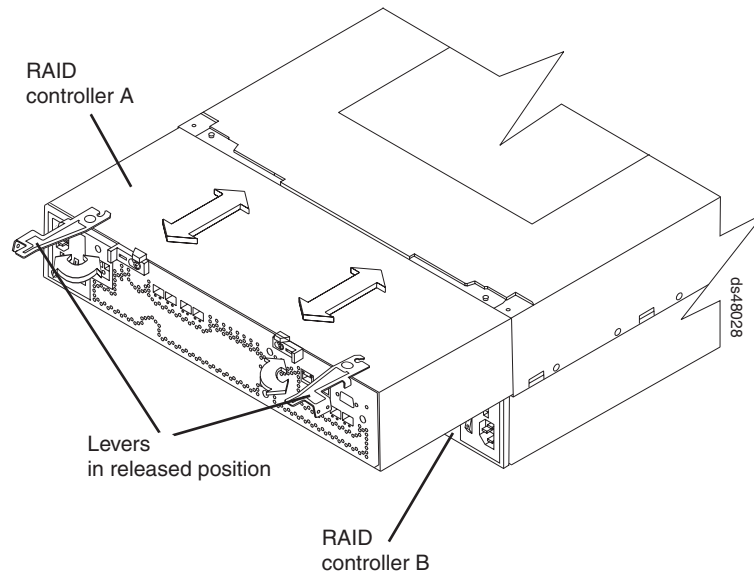

Figure 19. Removing the controllers
5. At the back of the DS4800 Storage Subsystem, use an adhesive note to label each of the controllers. Controller A is in the upper slot; controller B is in the lower slot. Figure 19 on page 41 shows the locations of the controllers and controller levers.
6. Remove the controllers. Figure 19 shows the controller locations and the controller levers.